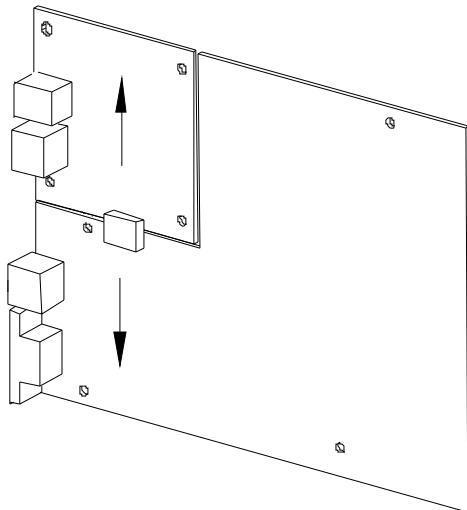

Figure 10.2.3
5. Replace the Ethernet card on the main board (Fig. 10.2.3).